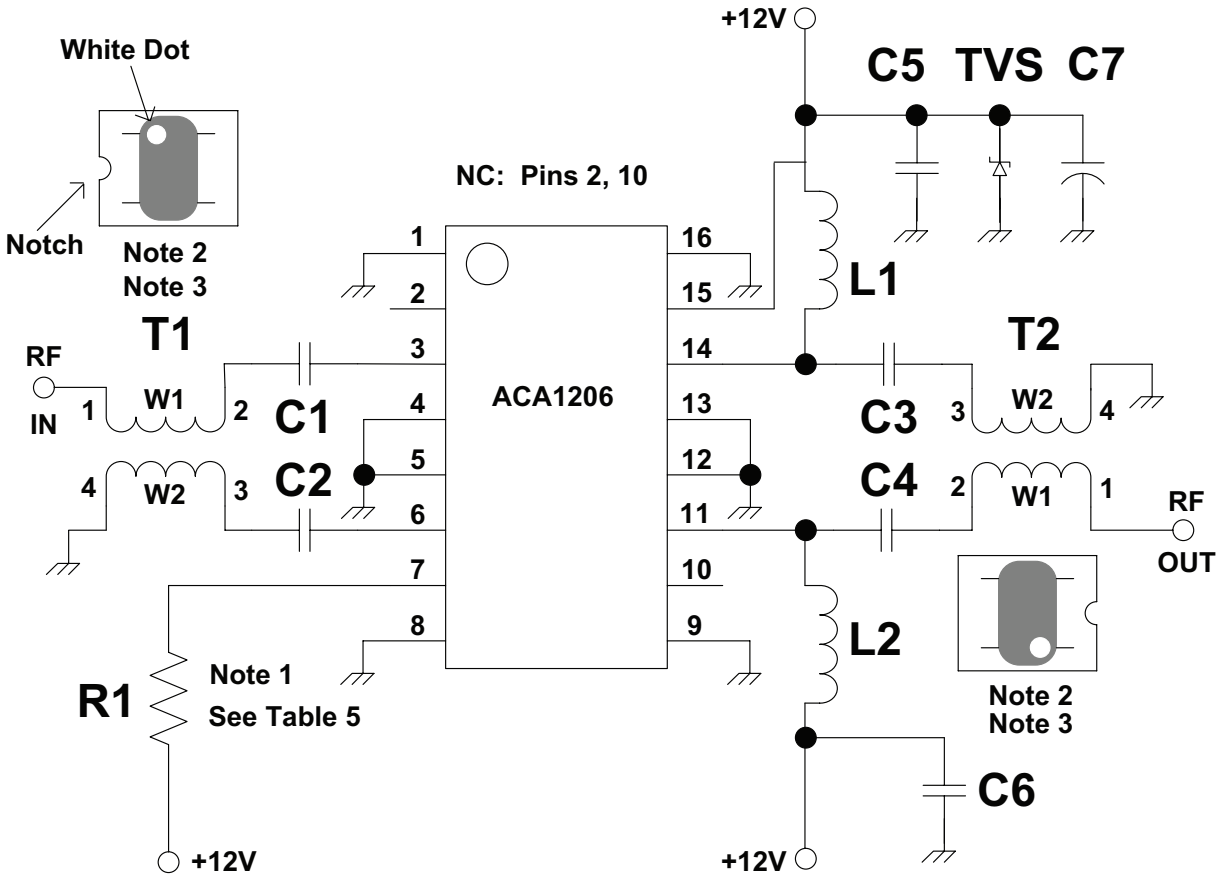

Figure 26: Test Circuit Schematic
(1) T1, T2 (balun) wind 5.5 turns thru core as shown (Figure 26).
(3) Due to the higher power dissipation of this device the PC board should be mounted/attached to a large heat sink.
(4) See Table 5